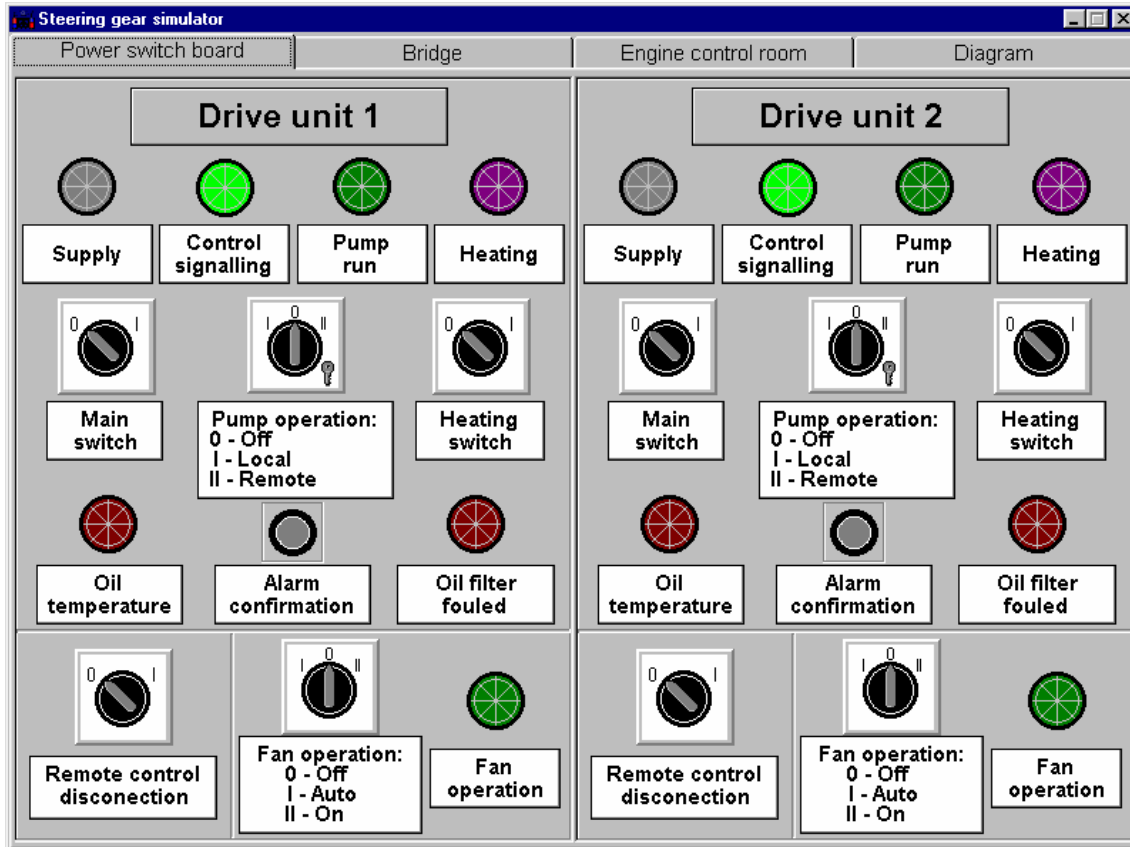

Fig. 3. Power switchboard panel.
### 3. Power switchboard panel description - fig. 3.
- **Pump operation** switch - it selects the kind of drive unit operation. In reality this switch is blocked by means of special key (visible on figure 3, only as an imitation). This protects the switch against the shifting into undesired position by unauthorised persons,